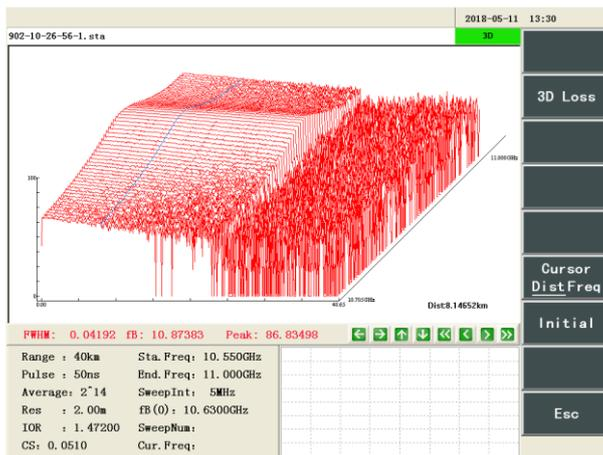

Figure 5-2 “3D” state and 3D display sub-menu
(1) In the 3D” state, set the [Cursor] function button to “distance/frequency”, the cursor operation mode will be in the distance mode, the cursor shape is dark curve as shown in Figure 5-2, and the curve shown by the cursor is the Brillouin spectrum curve corresponding to the selected distance point, at this time, the lower right corner of the "3D" window displays the distance information of the current cursor. At this time, the cursor movement operation or the curve scaling operation can be performed on the horizontal axis.